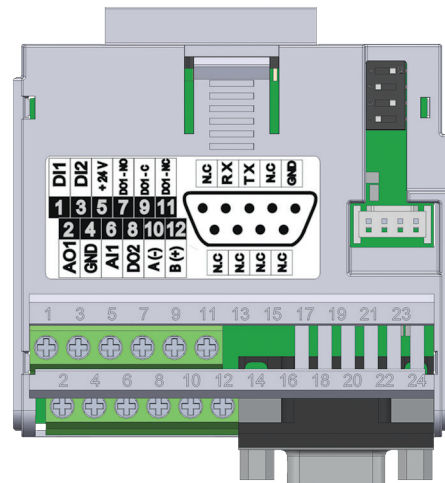

Figure 18.2: Plug-in module CFW500-CRS232
The CFW500-CRS232 plug-in module has Serial (1) interface through RS-485 port at terminals 10 (A-) and 12 (B+), as well as the Serial (2) interface through RS-232 port at standard connector DB9, see Figure 18.2 on page 18-1.